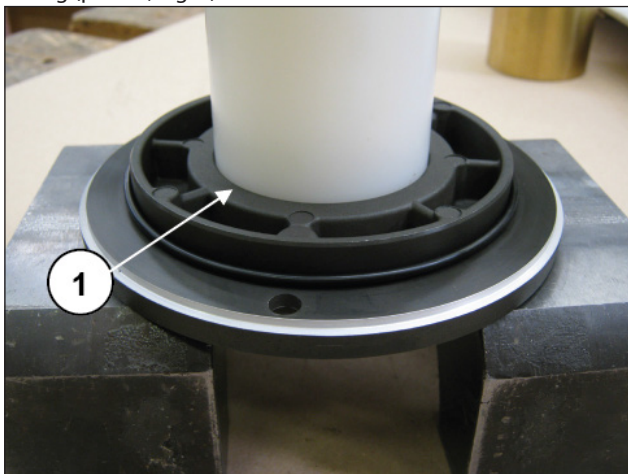
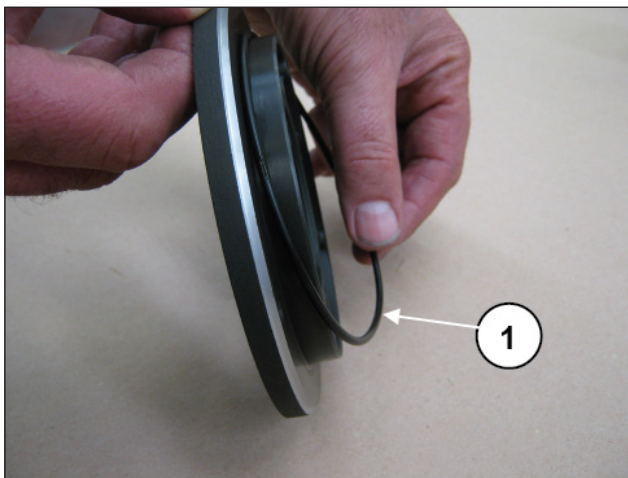

Fig. 5
Fig. 6
Remove the radial seal ring (pos. ①, Fig. 5) and the external O-ring (pos. ①, Fig. 6).